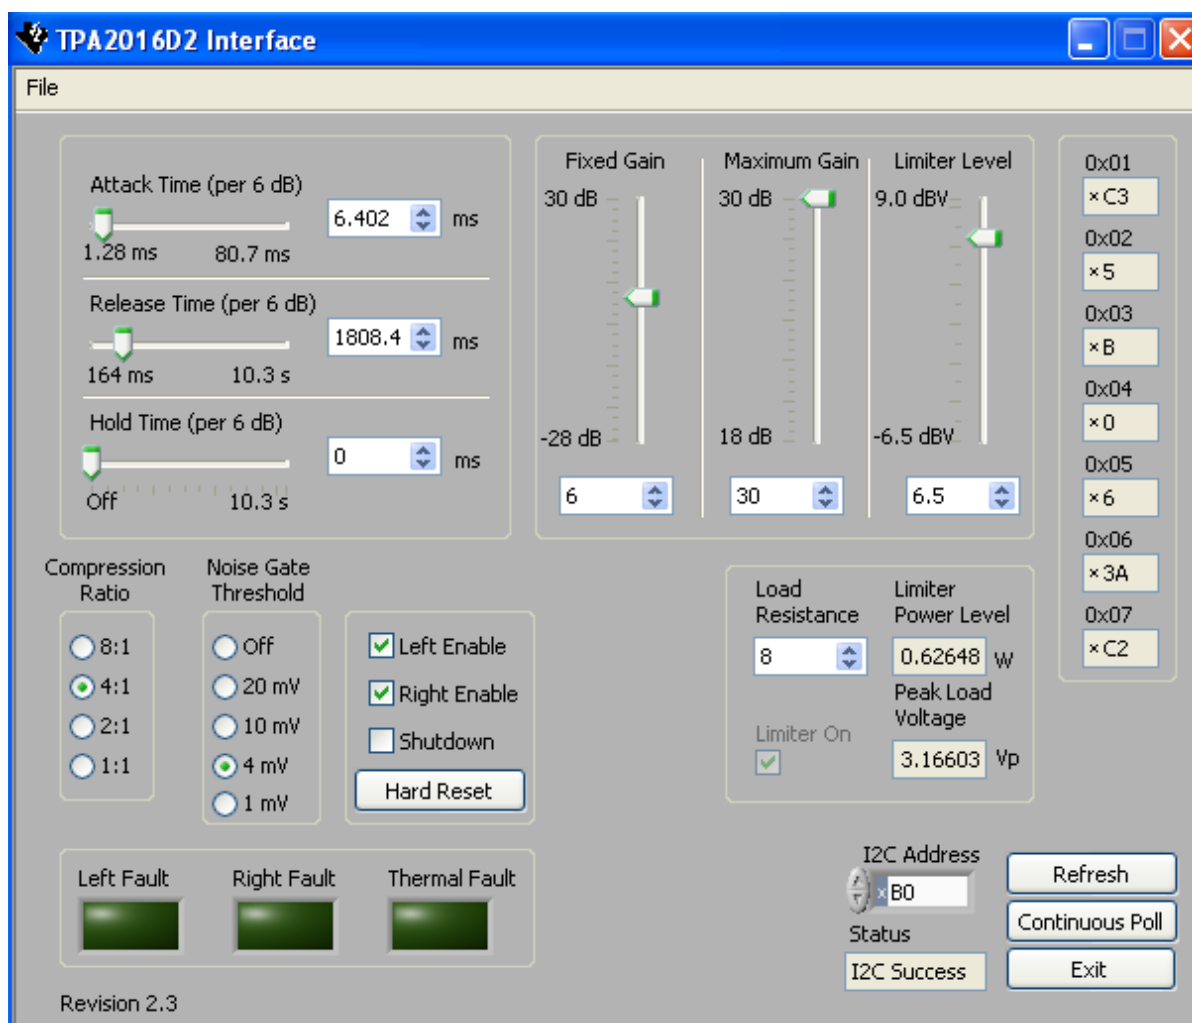

Figure 4. Software Interface
- The TPA2016D2 software interface is as shown in Figure 4.